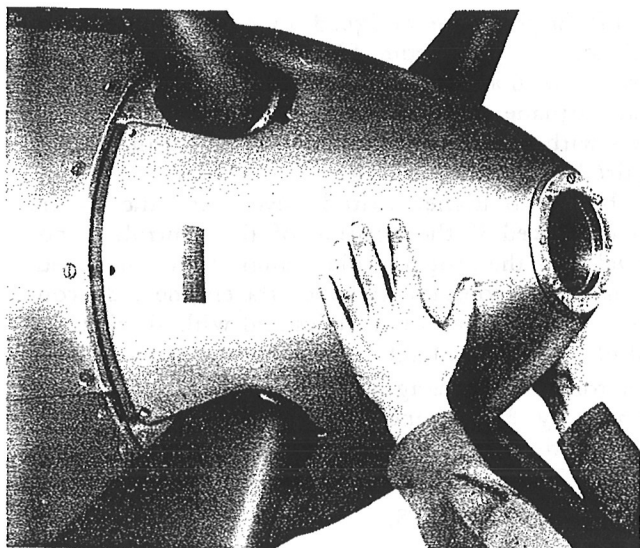
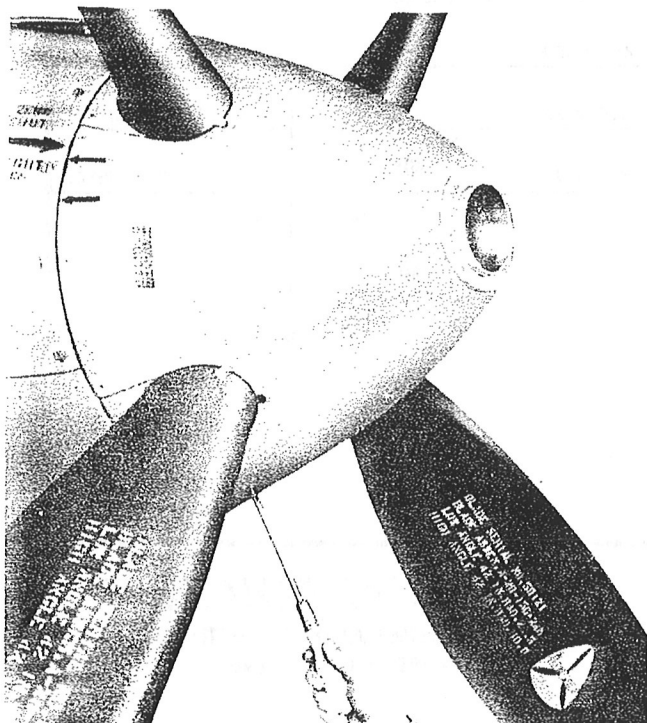

Figure 26—Installing the Spinner
Figure 27—Tightening Spinner Attaching Screws
r. Install the spinner, aligning the dowels in the bulkhead with the dowel holes in the shell. Tap the shell into place, using the hands only. (See figure 26.) Install and tighten the attaching screws. (See figure 27.)
(1) Tighten the attaching screws.